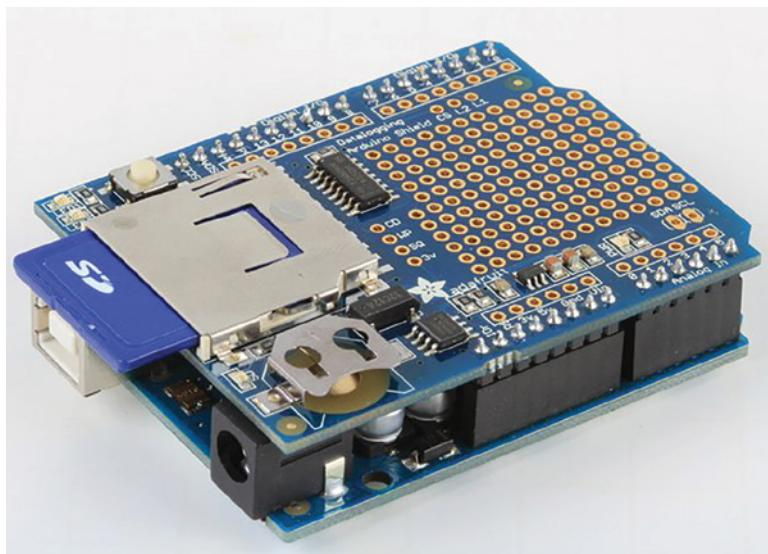

Figure 14-9: Adafruit data logging shield, mounted on an Uno
- **Adafruit data logging shield** (exploringarduino.com/part/adafruit-data-logging-shield): This shield is particularly well suited to the experiments that you will be doing later in this chapter because it includes both a real-time clock (RTC) chip and an SD card interface. This shield connects the SD card to the default CS pin and connects a real-time clock chip to the I²C bus (see Figure 14-9). This is the shield that will be used for the remainder of this chapter.
Ensure that your SD shield is mounted correctly to your Arduino and that you have an SD card inserted. When mounted, the Adafruit data logging shield should look like Figure 14-9.